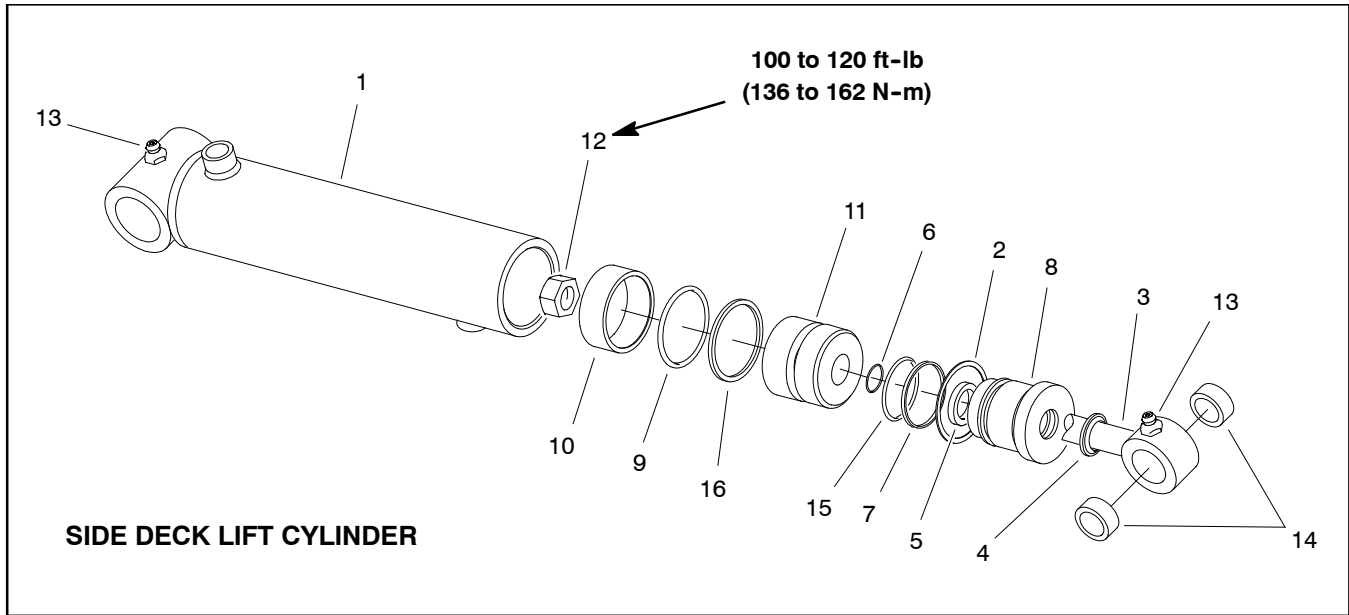
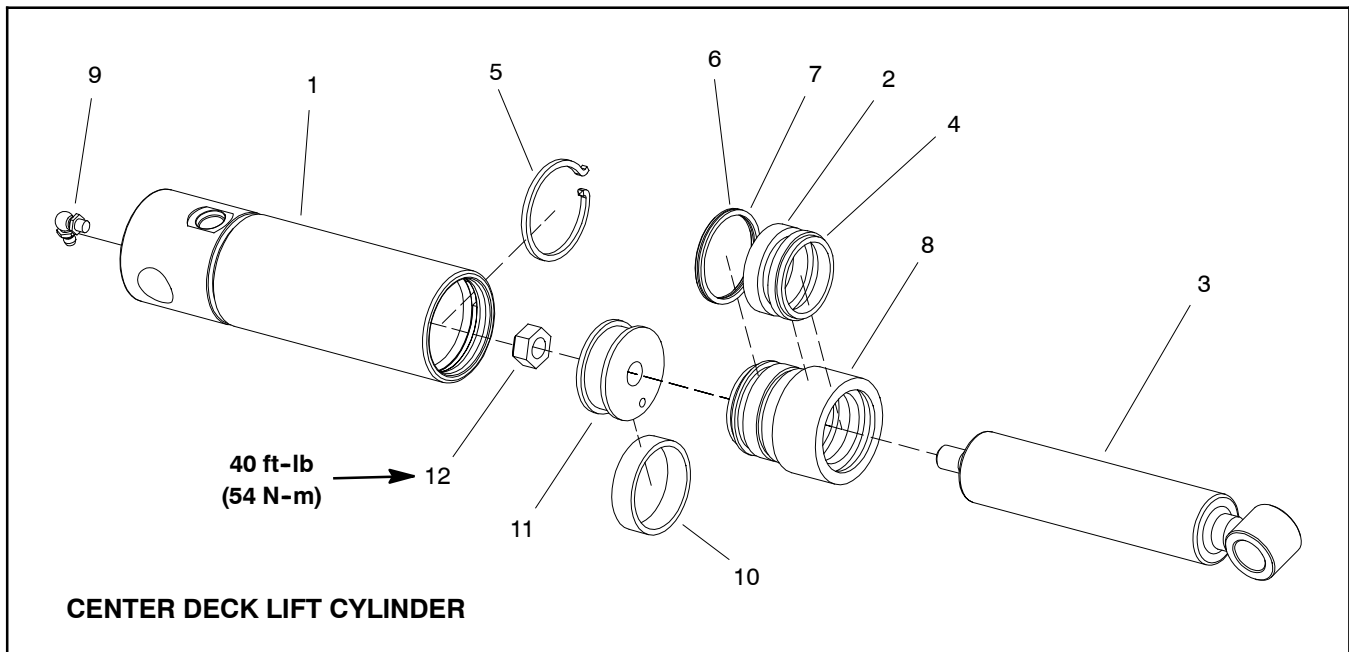

Figure 108
Figure 109
Disassembly (Figs. 108 and 109)
A. Use a spanner wrench to rotate head clockwise until the edge of the retaining ring (item 2 in Figure 108 or item 5 in Figure 109) appears in the barrel opening.
Assembly (Figs. 108 and 109)
C. Torque lock nut to specification in Figure 108 (side deck cylinder) or Figure 109 (center deck cylinder).